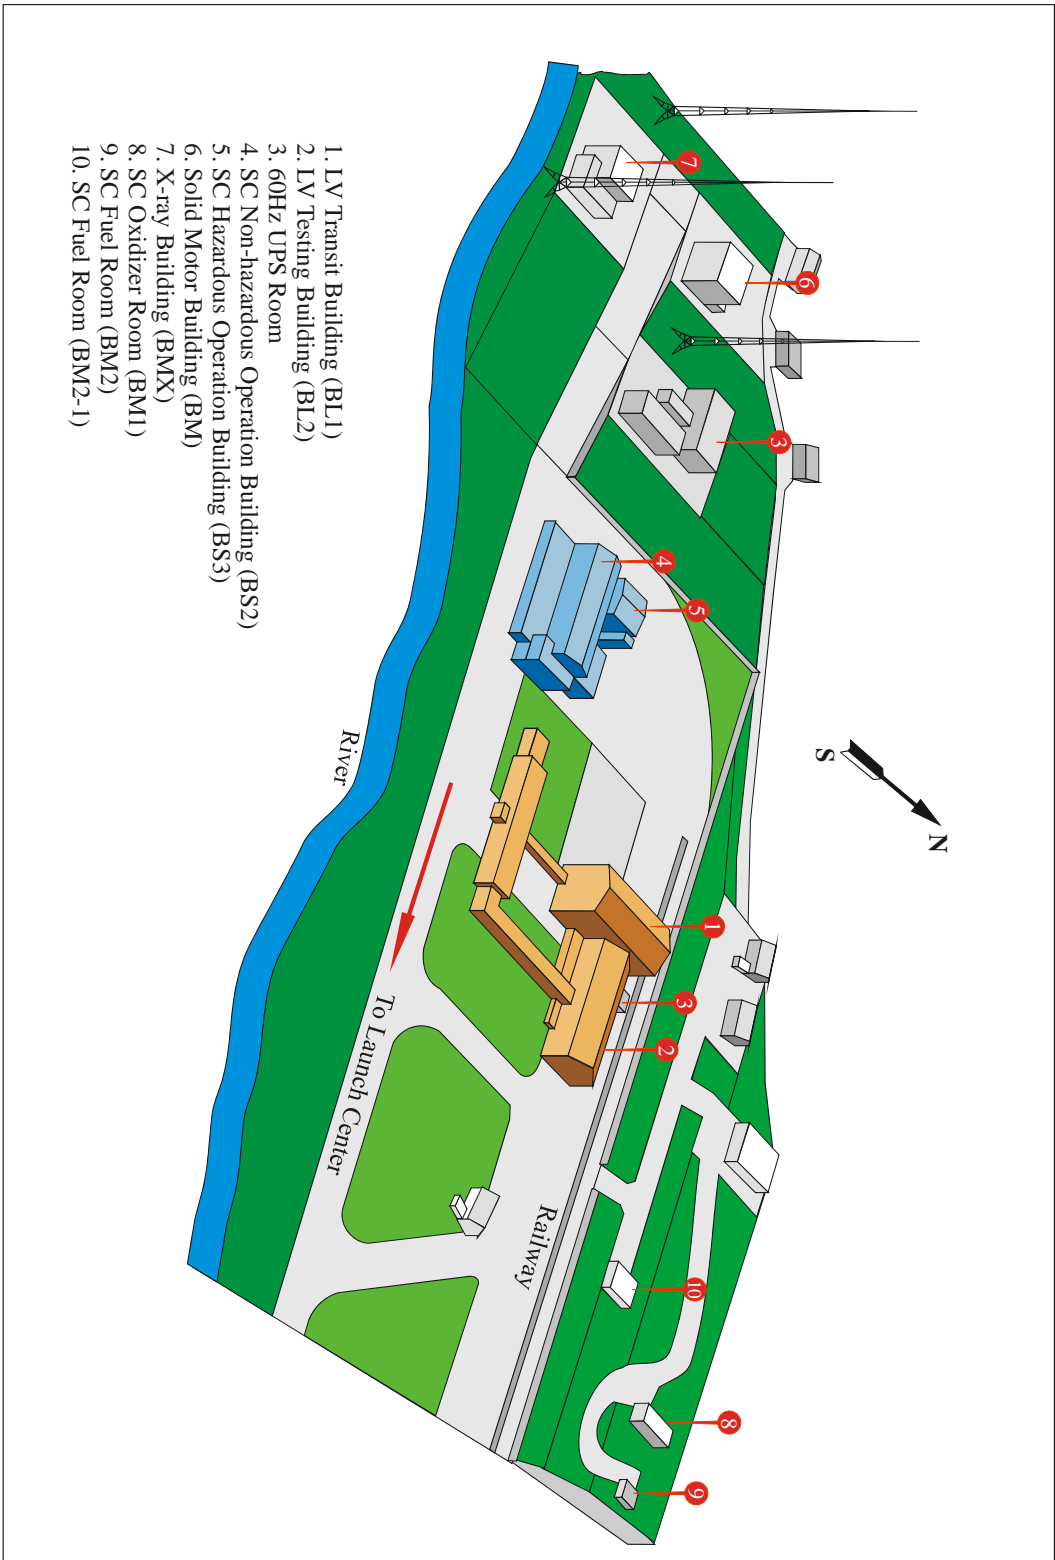

Figure 7-2 Technical Center
Technical center includes LV Processing Building (BL), SC Processing Buildings (BS), Power Station, Truck-Barn, etc. The LV and the SC will be processed, tested, checked, assembled and stored in Technical Center. Refer to **Figure 7-2**.
7.2.1 LV Processing Building (BL)